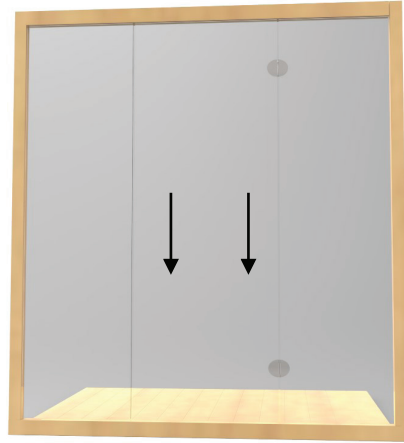

Fig. 2
3. Put the front panel with the glass door in front of the bottom panel (Fig. 2). The front panel is not going to be fixed on the bottom panel.